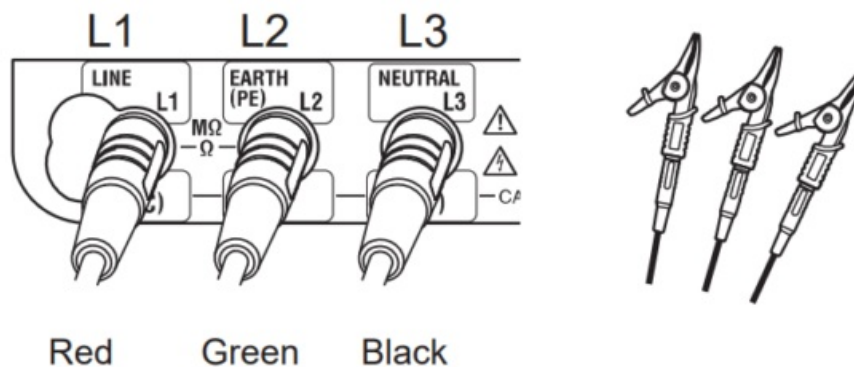

Fig. 12-2
3. Connect the test leads to the instrument as illustrated below. (Fig. 12-2)